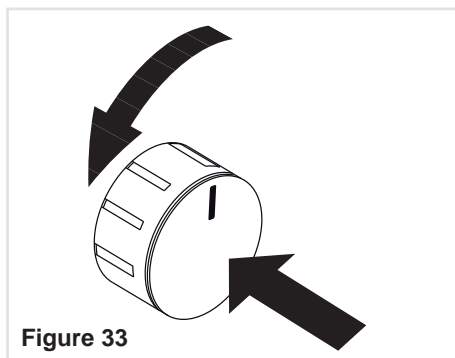

Figure 33
2. Lightly press and turn the thermostat knob anti-clockwise (fig. 33) to max position "**10** ★".